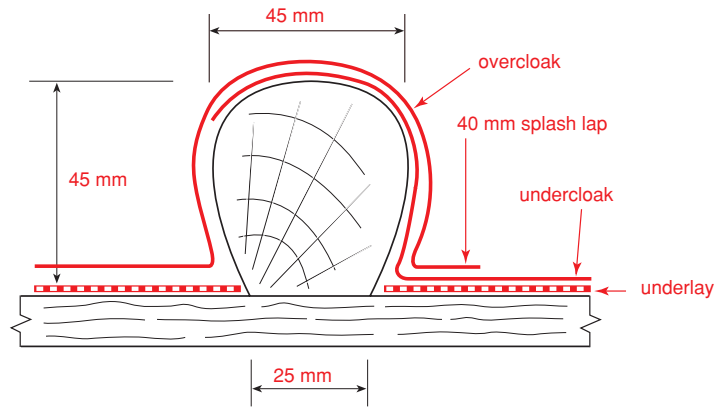

Figure 37
(94) Figures 37 and 38 show a wood-cored roll and drip, as used for sheet lead. Complete the illustrations to show how the lead is weathered at these details, giving dimensions and explanatory notes as necessary. (Page 360.)
(95) State the name of the fixing used to secure a cover flashing into the brick course. (Page 362.)